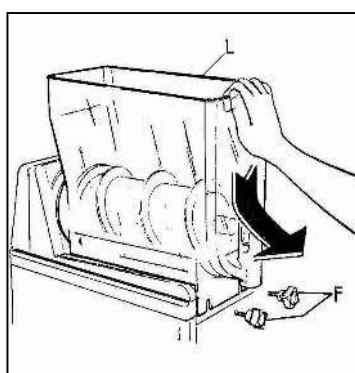

Fig. 11
- Slightly move down the bowl as shown in figure 11 while pulling it outwards, this operation will help fully removing it from its seating.